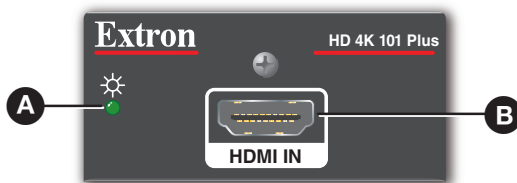
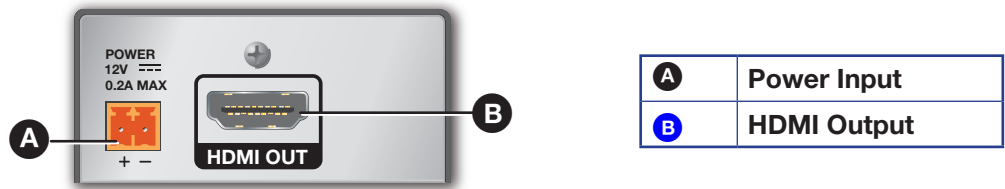

Figure 2. HD 4K 101 Plus Front Panel
Figure 3. HD 4K 101 Plus Rear Panel
Use a HDMI cable to connect the input source to the female HDMI socket on the front panel of the HD 4K 101 Plus (**figure 2, B**, on page 3). Use a HDMI cable to connect the output sink to the female HDMI socket on the rear panel of the HD 4K 101 Plus (**figure 3, B**, on page 5).
- B HDMI Output** (see figure 3 on page 5)— One female HDMI Type A connector used for HDMI output. The output supports a pixel clock up to 600 MHz. The cable length connecting to the display device must be a maximum of 12 feet (3.6 m).